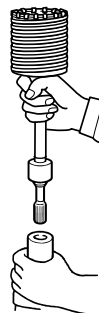

Fig. 12
- (2) Mount the core bit shank to the Rotary Hammer. (Fig. 12)